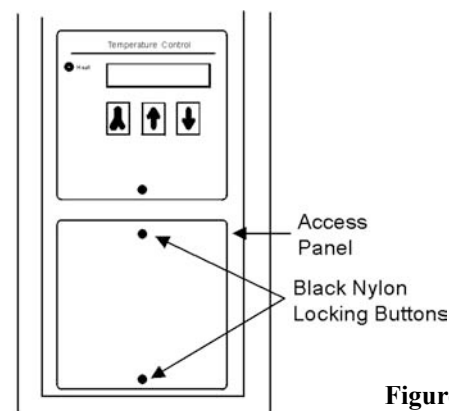

Figure 4-2
4. Remove the cover plate located directly beneath the Temperature Control Module. The cover is released by pulling the two black plastic locking pins. (Refer to Figure 4-2)